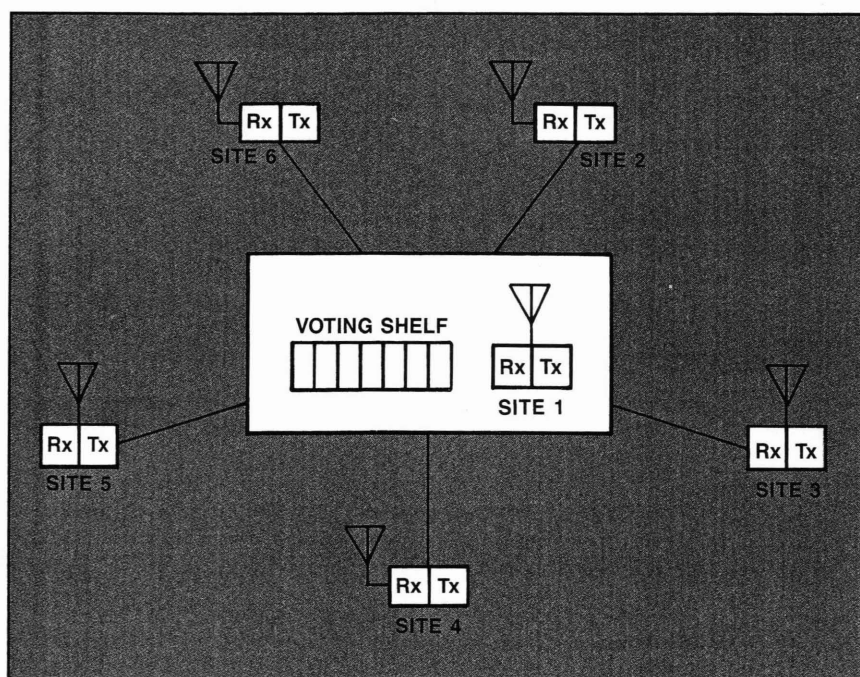

Figure 1. In the more common star network, satellite receivers are placed throughout the coverage area. They feed signals to a centralized voting shelf.
► *Star network*—Figure 1 on page 30 shows the more common star network, in which satellite receivers are placed